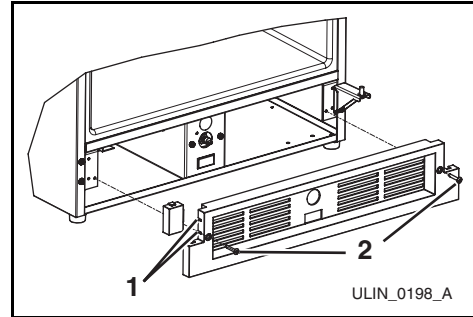

Figure 10
6. Make sure grille cap is behind grille in slots provided in grille (**Figure 10, 1**) before attaching grille to unit, and secure but do not overtighten both grille screws (**Figure 10, 2**).